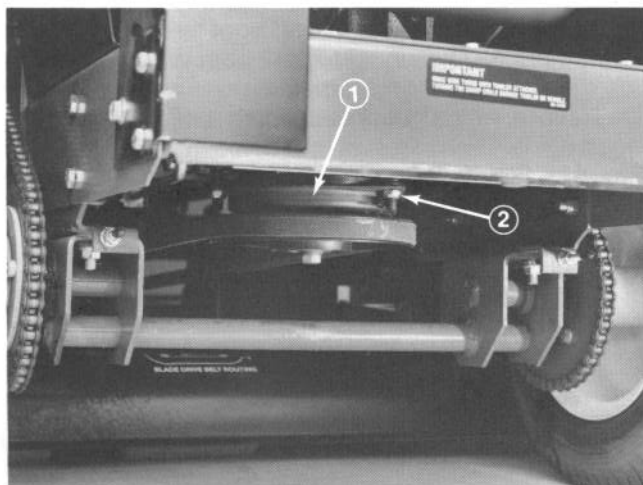

Figure 36
1. To adjust the clutch, tighten or loosen locknuts on flange studs (Fig. 36).